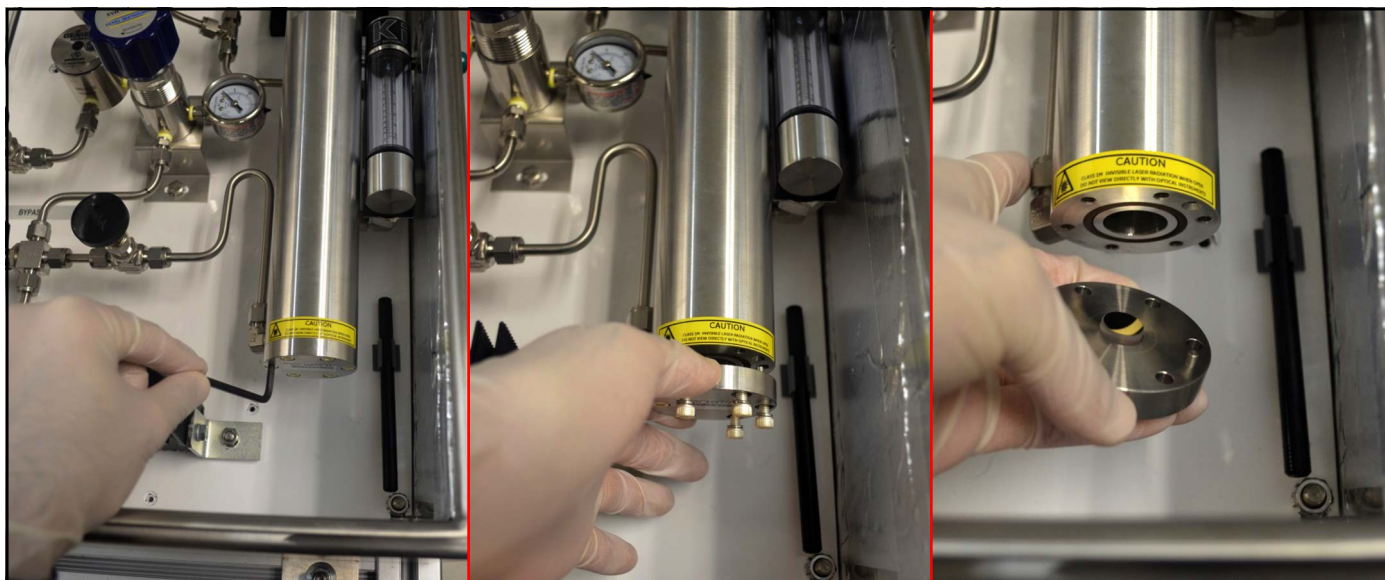
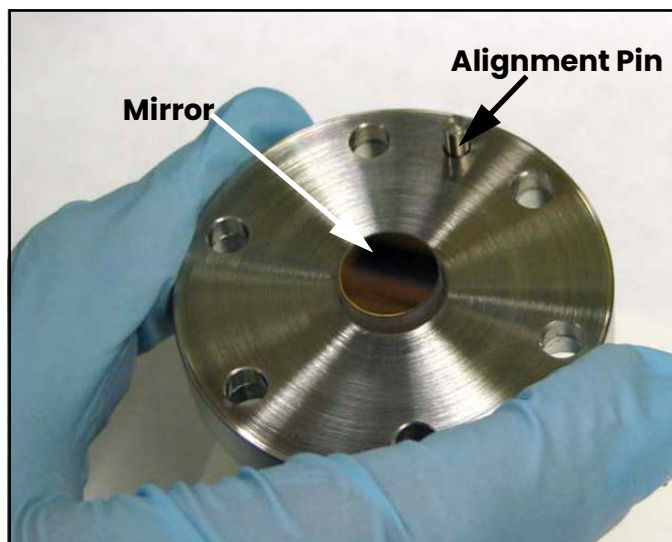

Figure 85: Removing Mirror End Cap Assembly from the Absorption Cell
Figure 86: Handling the Mirror Assembly
1. Remove the 6 hex bolts securing the mirror (see *Figure 85* below) using a 5/32 inch Allen wrench. Hold the stainless steel base of the mirror with one hand while removing the last retaining bolts. The mirror is removed by pulling it straight down. There is one alignment pin (see *Figure 86* below) to facilitate proper removal.